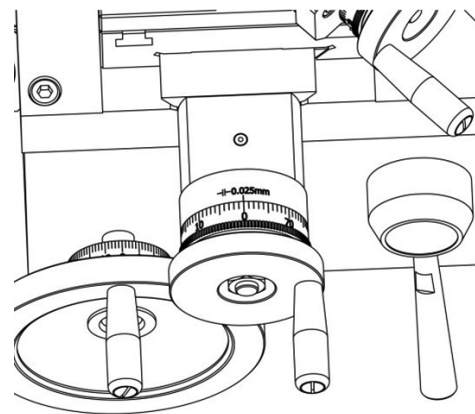

Figure 15 Adjusting graduated dial
2. Hold the handwheel still and turn the scale so the “0” mark lines up with the “0.000” mark on the cross slide, as shown in Figure 15. As long as you avoid backlash by continuing to move the cross slide in the same direction, the scale on the handwheel will be accurate.